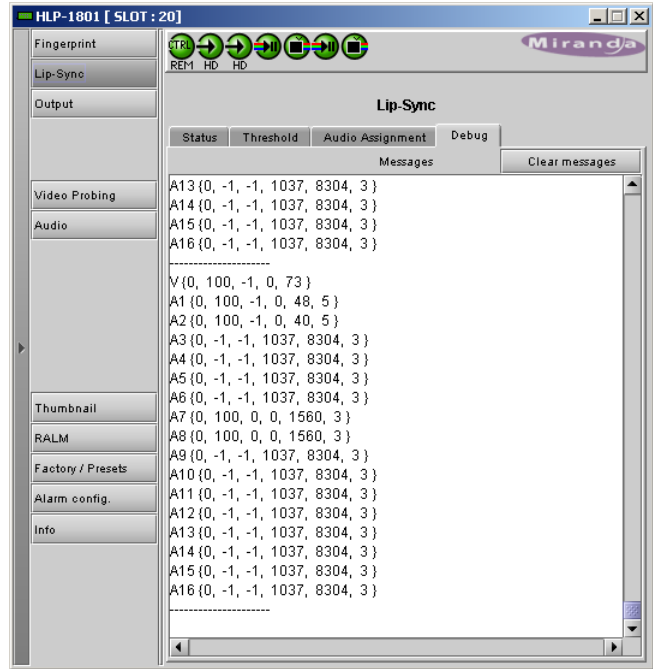

Figure 3.7 Lip-Sync panel – Debug tab
**NOTE- DEBUG tab:** An extra tab named *Debug* may appear on the tab bar to the right of the *Audio Assignment* tab, as shown in figure 3.7. You can disable/enable it in the Factory/Presets control panel if you wish. See Section 3.4.9 for information.